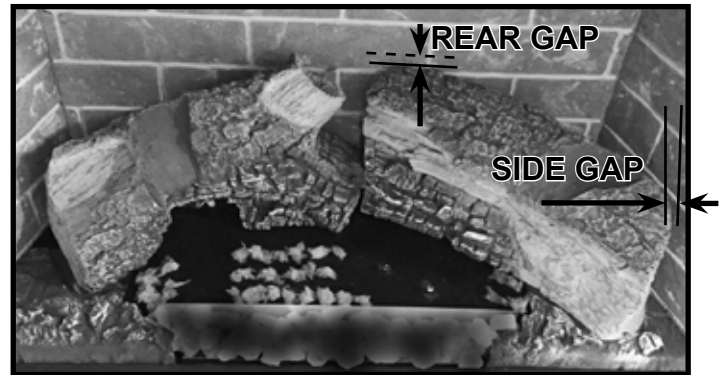

Figure 5 Rear Right Log Installed
2. Remove the large rear right log from packaging. Locate the locating feature on the bottom of the log and mate that feature with the back right log pin. The right side of the log will reside within the indentation in the right hearth component. See Figure 5.
SL-7X and SL-9X Models: The rear right log will be positioned to contact the back wall refractory (no rear gap). Slide the rear right log leftward as close to the rear left log as the locating pin will allow. There will be about a 1 inch side gap between the right end of the log and the right refractory panel. See Figure 5.
SL-3X Models: Mate the left log hole with the left log pin. The rear right log will contact the right refractory panel (no side gap). See Figure 5. Slide the rear left log rightward as close to the rear right log as the locating pin will allow. There should be no more than a 1/4 inch gap between the rear logs.
SL-5X Models: Set the right side of the log in the indentation of the right hearth component. Set the left side of the log down and rotate toward the back of the firebox until it contacts the log pin. See Figure 5.